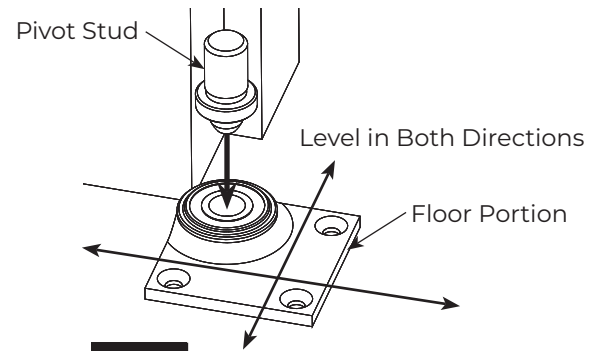

Figure 4
3. Install floor portion securely to floor using three (3) 1/4-20 x 3/4" FHMS. (Figure 4)
4. Insert pivot stud in floor portion. (Figure 4)